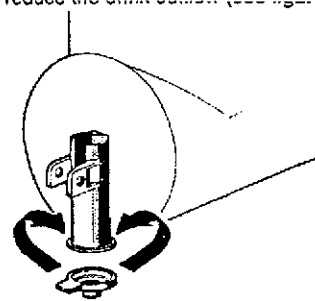

figure 5
5.2/X Restrictor cap: when the unit is used in Soft Drink mode it is advisable to install the restrictor cap on the faucet outlet in order to reduce the drink outflow (see figure 5).